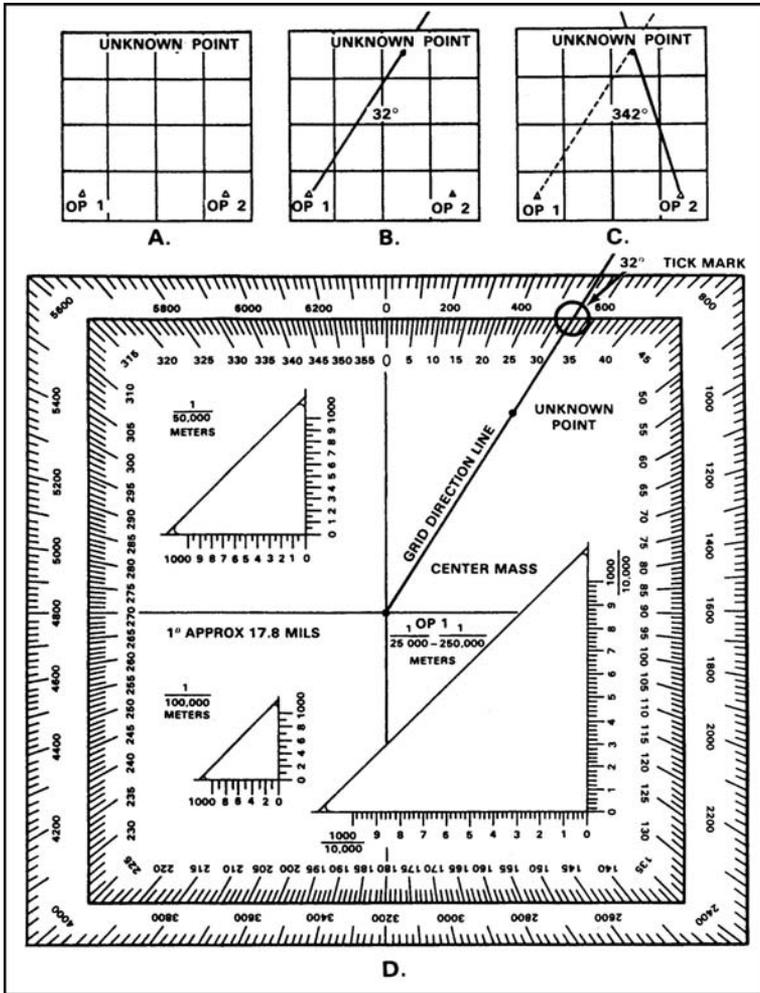

Figure 071-329-1014-1. Location of an unknown point
**Evaluation Guidance:** Refer to chapter 1, paragraph 1-9e, (1) and (2).
1. Use the map and compass method (figure 071-329-1014-1).